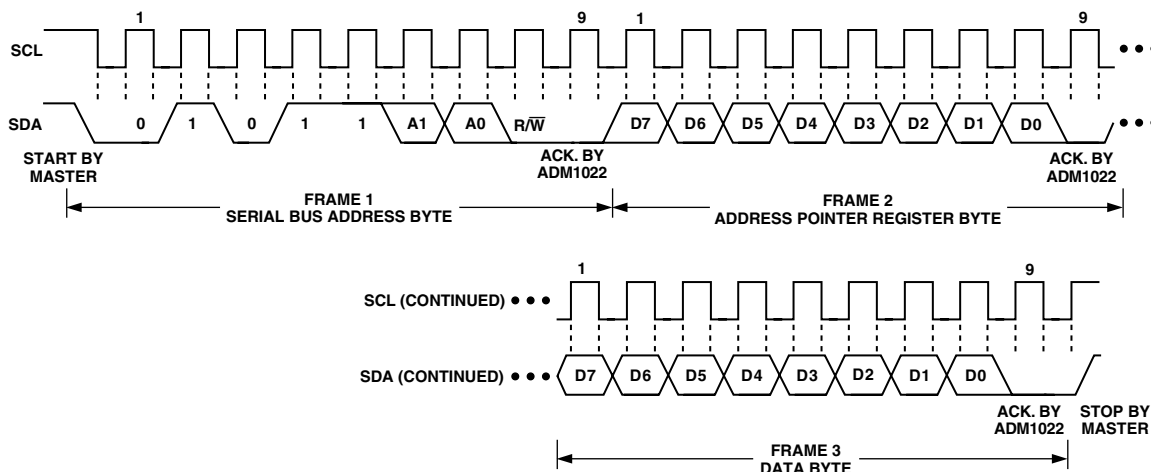

Figure 11a. Writing a Register Address to the Address Pointer Register, then Writing Data to the Selected Register
This is illustrated in Figure 11a. The device address is sent over the bus followed by  $R/\overline{W}$  set to 0. This is followed by two data bytes. The first data byte is the address of the internal data register to be written to, which is stored in the Address Pointer Register. The second data byte is the data to be written to the internal data register.
2. In Figures 11a to 11c, the serial bus address is shown as the default value 01011(A1)(A0), where A1 and A0 are set by the three-state ADD pin.